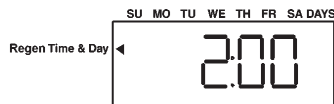

fig.13
- 2) Using the buttons **↓↑** select the regeneration time (fig. 13).